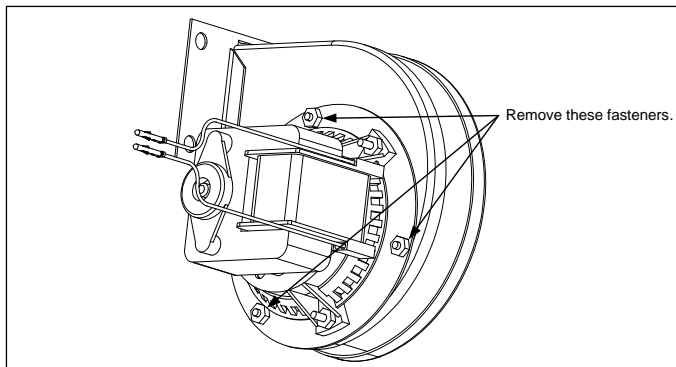

Figure 2
2. Remove the three fasteners that secure the blower motor assembly to the blower housing, and separate the two components. (See Figure 2)